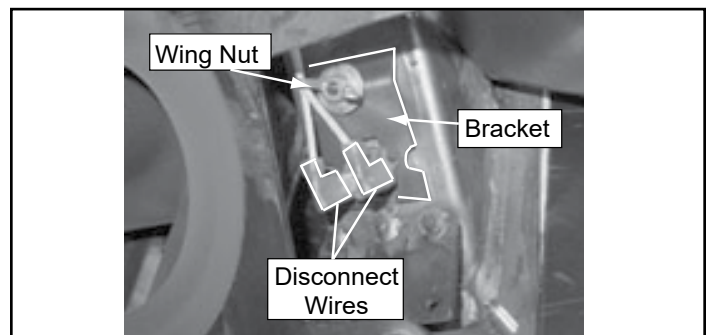

Figure 26.3
8. Disconnect wires from snap disc #2 (**Figure 26.3**).